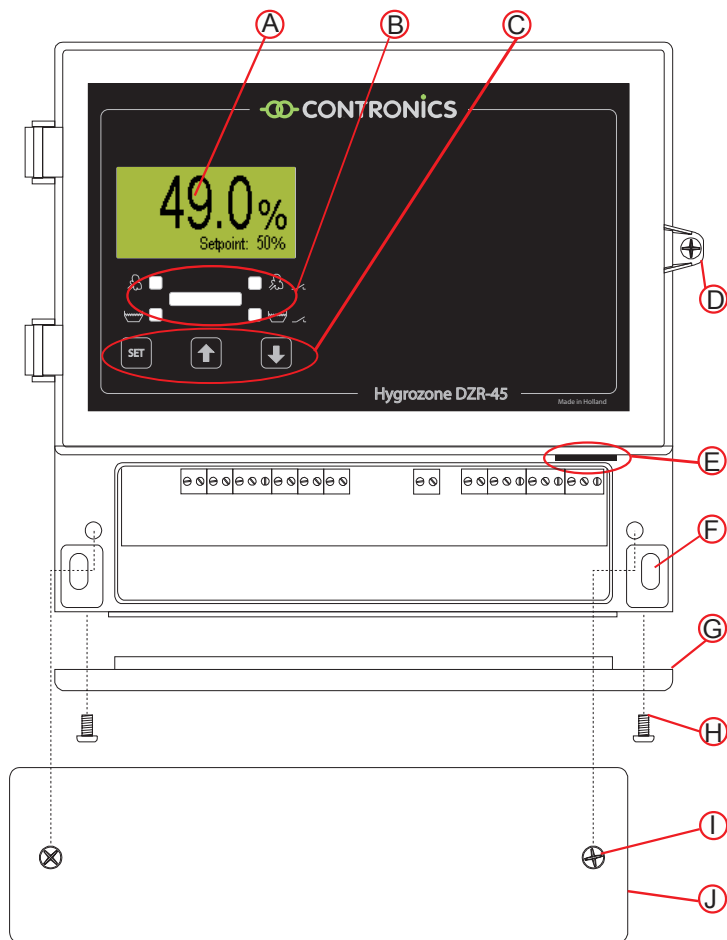
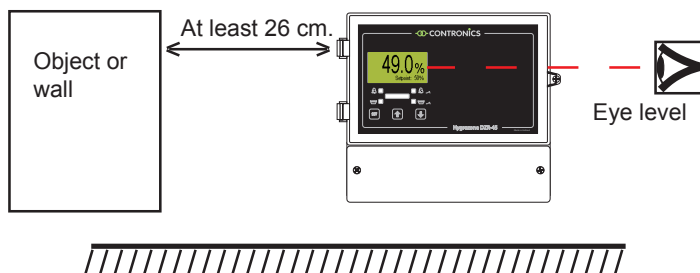

Figure 1. Description and connections
Figure 2. Installation of the controller
The controller must be mounted on an interior wall, preferably in a clean room where the humidity level is not excessive. Do not mount the controller above a heating system or the like. When installing, ensure that the display is located at eye level and that the perforated plate (Fig. 1, item G) is facing downwards. Keep an area of up to 26 cm free to the left of the controller to ensure that the cover can be opened (see Fig.2).
Open the cover of the controller by removing the screw from the upper cover (see Fig. 1, item D). Remove the cover from the connection compartment (Fig. 1, item J) by removing the two retaining screws. There are 4 mounting holes: 2 in the top corners of the housing, and 2 at the bottom (Fig. 1, item F). M4 or M5 screws can be used for these holes. You will find the hole pattern in the diagram below:
If you wish to make holes in the perforated plate (Fig. 1, item G), please ensure that the cover (J) of the connection compartment is positioned correctly. Then carefully make the required number of holes using a hammer.